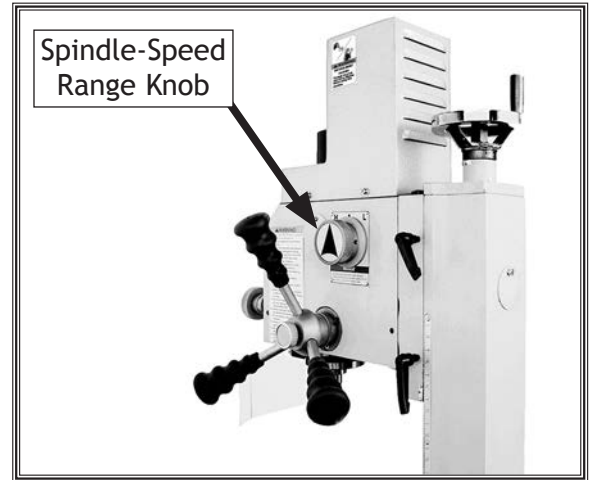

Figure 32. Select "L" or "H" to change spindle speed range.
1. Shift spindle-speed range knob to either "L" (spindle speeds of 50–1000 RPM) or "H" (spindle speeds of 100–2000 RPM) (see **Figure 32**).